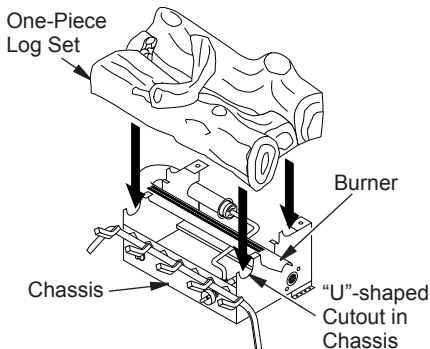
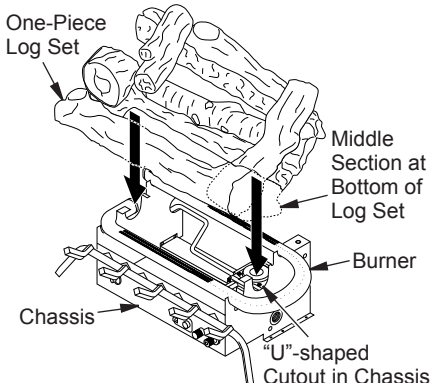

Figure 21 - Installing Vintage Oak One-Piece Log Set
Figure 22 - Installing Golden Oak One-Piece Log Set
1. Place one-piece log set on grate to fit as illustrated in Figure 21 for Vintage Oak models and Figure 22 for Golden Oak models. For Vintage Oak models make sure bottom of front log is in front of "U"-shaped cutout in center of chassis (see Figure 21). For Golden Oak models make sure middle section at bottom of log set is seated into "U"-shaped cutout in center of chassis (see Figure 22).